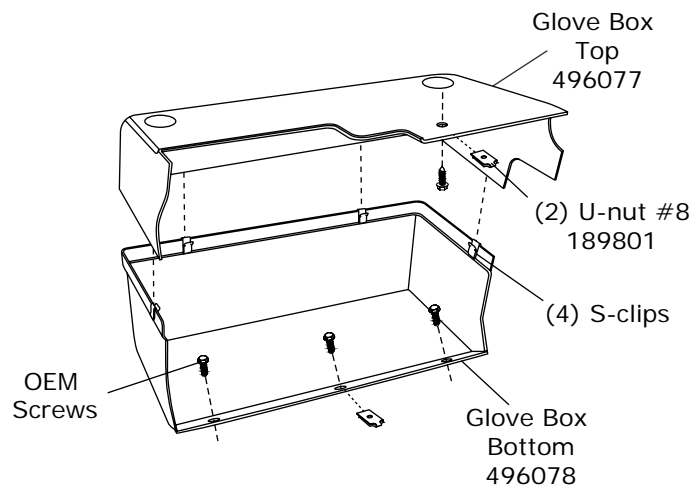

Figure 18
7. Install U-nuts in glove box top/bottom (See Figure 18, below).
9. Install glove box top using (4) S-clips and OEM screws (See Figure 18, below).